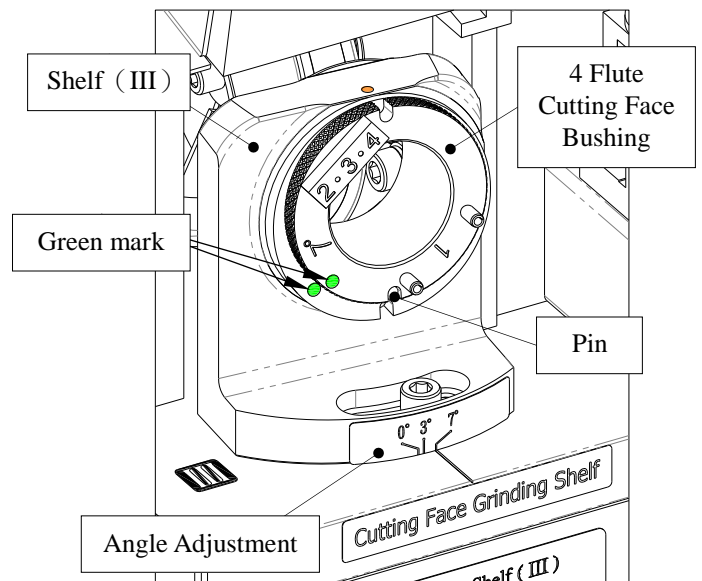

Fig. 18-3
3. Shelf (III) (Fig. 18-3)
- ① Adjust Shelf (III) to 7°.
- ② Insert 4 Flute Cutting Face Bushing to Shelf (III) ,align the Green mark ● of the Bushing with the Green mark ● on the shelf, then insert the bushing gently and align No.1 of the Bushing with the Pin on the shelf.